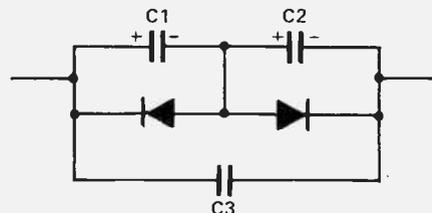

Fig. 1. (letters) Non-polarized capacitor in disguise.
*What would you do with non-polarized tantalums in a PAT-5? Anyway, you're not likely to get any, so you might as well roll your own. Connect two units back to back as in fig. 1. Each one should be equal to the desired final value. If only a few milliamps of current are required, you*
*As for the rest of your parts, I can only suggest Electro Sonic in Toronto. Call the order desk at (416) 494-1555 and order a catalogue. It's worth the ten bucks. Other suppliers, pay attention. This is a free plug for a company which doesn't need one. How about dropping a line to ETI and get a mention. It's free, except for the postage. While you're at it, ask about our attractive advertising rates, and all those readers who are begging to know about you and your products.*